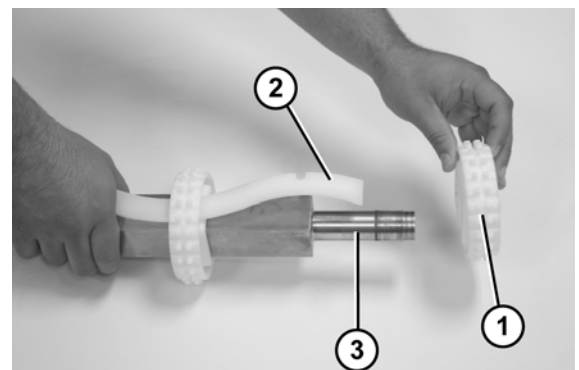

Figure 74
10. Slide the sprockets (**Figure 74, item 1**) and the sprocket alignment bar (**Figure 74, item 2**) off the drive spindle (**Figure 74, item 3**).